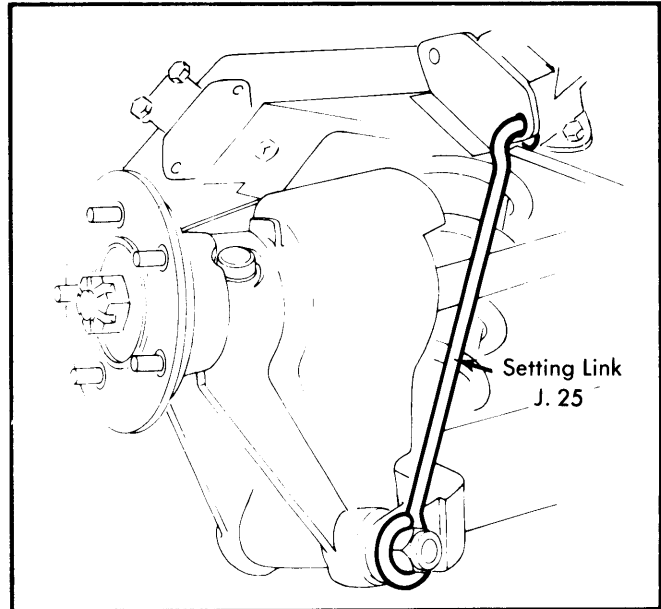

Fig. 2 Rear Suspension in Locked Position with Special Tool
- 3) Compress rear suspension and install suitable suspension setting links (J. 25), to lock rear suspension in place (See Fig. 2). Vehicle is now locked in half-loaded condition and caster and camber can be checked and adjusted.